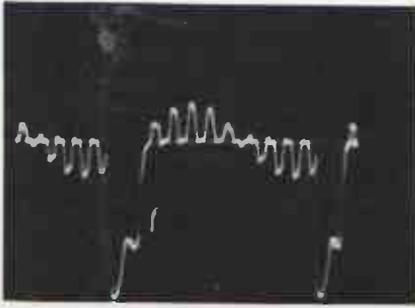

FIG. 5-8. R-Y waveform.
4. Adjust the oscilloscope to produce a stationary pattern, as shown in Fig. 5-8. (Horizontal timebase at 7875 or 5250 cps.)
5. Adjust the burst-phase transformer until the center of the sixth bar (B-Y) goes through the zero-reference line as shown in Fig. 5-8. The zero-reference line is